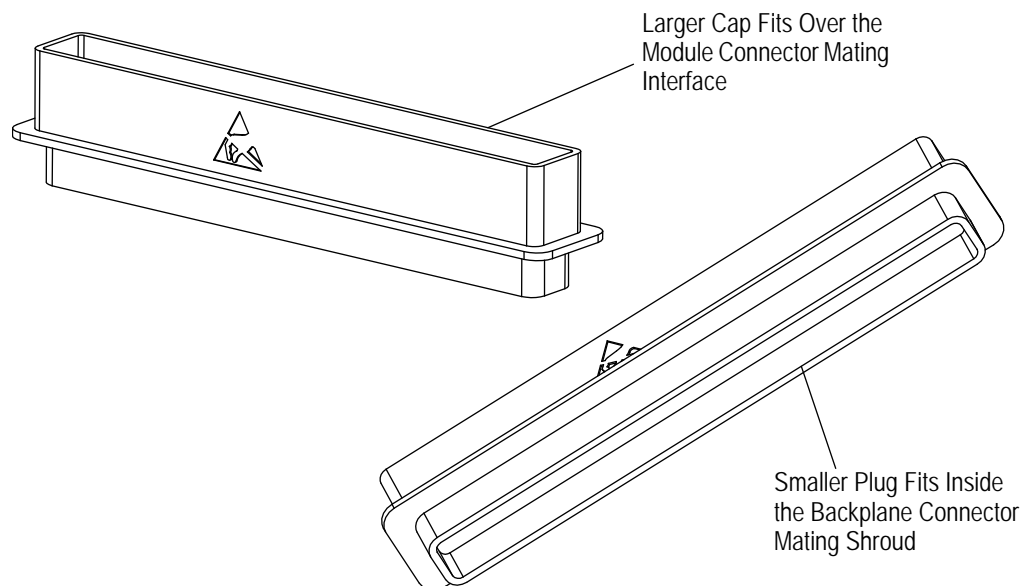

Figure 5
D. Protective Cover (Figure 5)